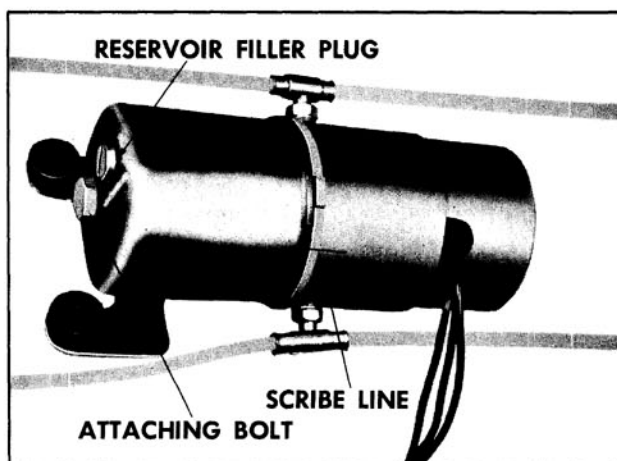

Fig. 16-419 Motor and Pump Assembly
2. Scribe a line across pump end plate and reservoir tube to insure a correct assembly of parts. (Fig. 16-419)